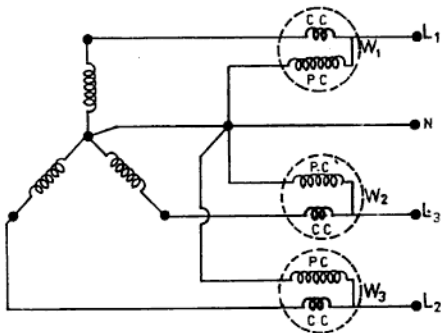

Fig. 12.13: Power measurement by three wattmeter method
**Three-Wattmeter Method (for Unbalanced Load)** In this system three wattmeters  $W_1$ ,  $W_2$  and  $W_3$  are connected as illustrated in Fig. 12.13. Each wattmeter measures the power of the phase to which it is connected. So the total power consumed in a three-phase circuit is the sum of the three-wattmeter readings.